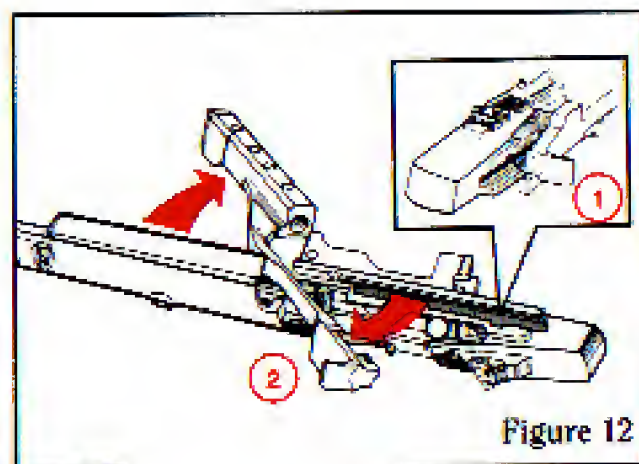

Figure 12
8. Pull slide handle to the rear. Align locking projections on slide with disassembly notch on receiver. Remove slide (See Fig. 12).